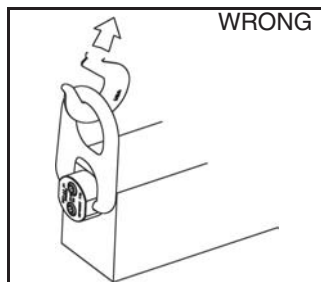
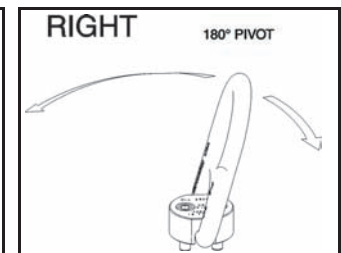

Figure 2
Figure 4
- Apply partial load and check proper pivot. Ensure load alignment is in the direction of pivot (Figure 4). There should be no interference between load (work piece) and pivot hoist ring bail (Figure 2).
- Always ensure free movement of the bail. The bail should pivot 180 degrees (Figure 4).